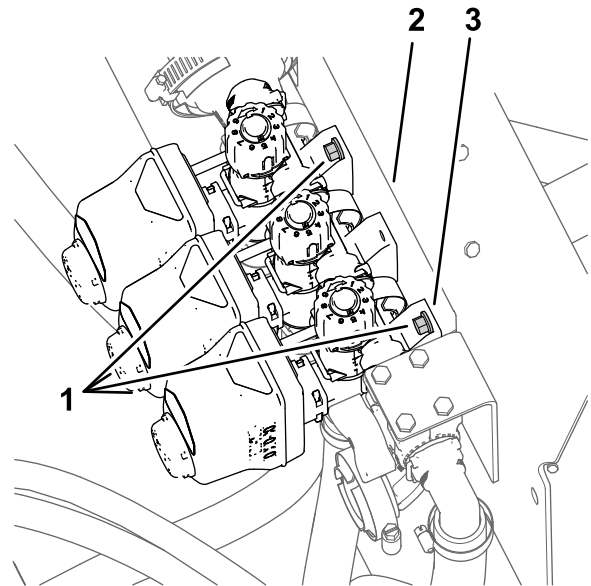

Figure 33
- Loosen the 4 flange-head bolts (1/4 x 3/4 inch) and 4 flange locknuts (1/4 inch) that secure the 3 section valves to the manifold mount (Figure 33).